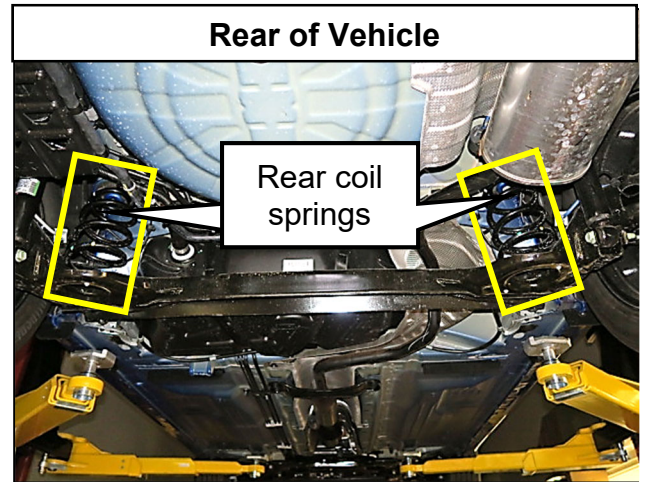

Figure 1
2. Locate the rear coil springs. (Figure 1)